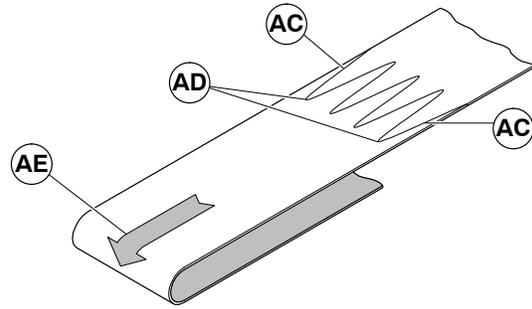
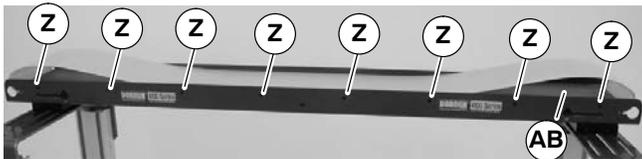
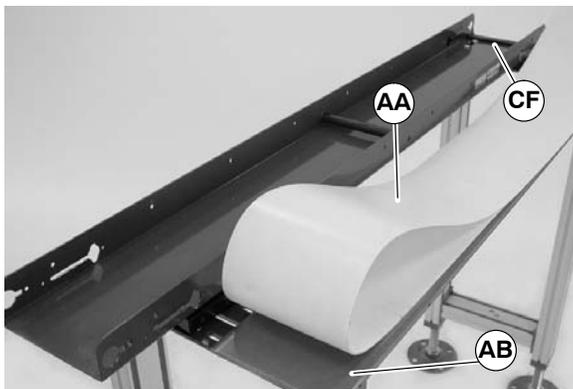

Figure 15
Figure 13
Figure 14
4. Remove screws (Z of Figure 13) on both sides of conveyor and remove bed plate (AB).
5. Remove belt (AA of Figure 14) from bed plate (AB).
1. Insert belt (AA of Figure 14) inside frame. Orient belt so belt splice leading finger (AD of Figure 15) points in direction of travel (AE) and trailing finger (AC) is as shown. Belt must run toward bottom wiper (CF of Figure 14).
2. Insert bedplate (AB of Figure 14) inside belt loop.
3. Attach bedplate (AB of Figure 14) to conveyor frame with screws (Z of Figure 13). Tighten screws to 14 in-lbs.